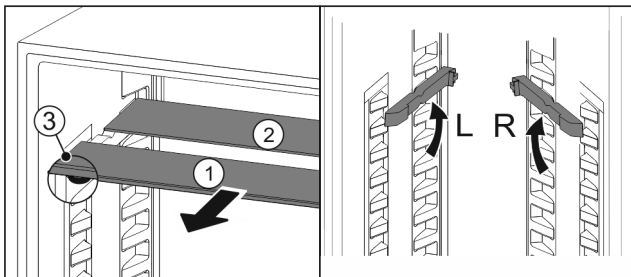

Fig. 159
- ▶ Pull the glass panels out Fig. 159 (1) from the front, one at a time.
- ▶ The glass panel Fig. 159 (1) and trim strip are at the front.
- ▶ The stops Fig. 159 (3) point down.